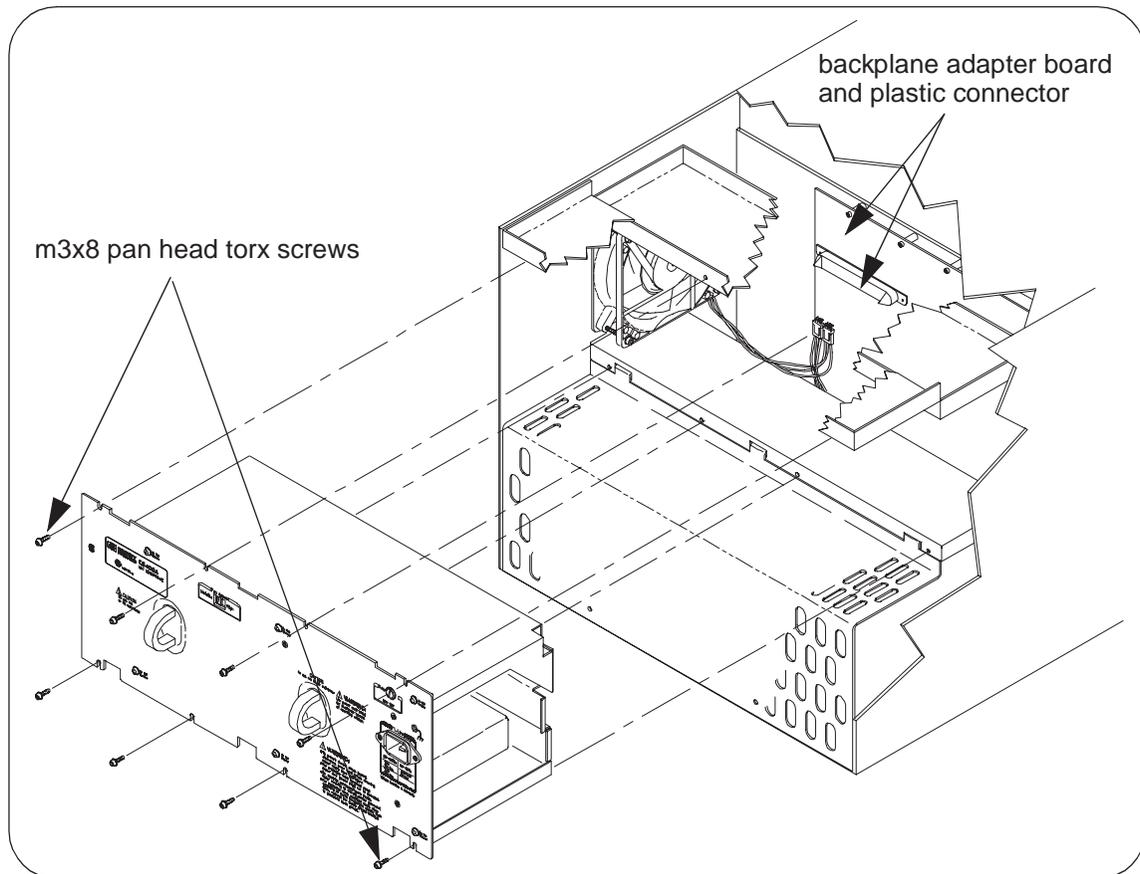

Figure 3-2. Removing the Power Supply from the Mainframe.
2. Remove the eight m3x8 pan head torx screws connecting the power supply to the mainframe chassis (Figure 3-2).
3. Remove the eight m3x8 pan head torx screws connecting the power supply to the mainframe chassis (Figure 3-2).